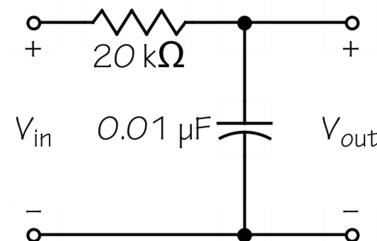
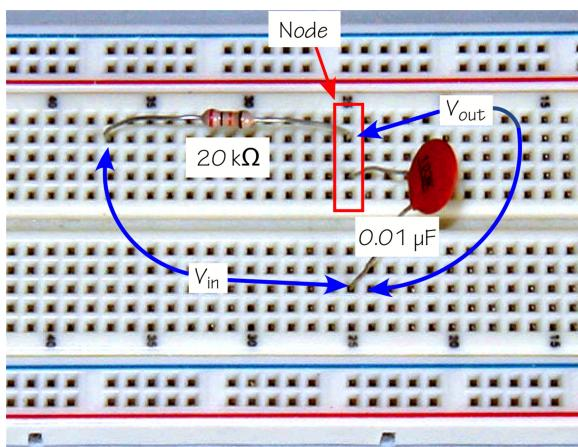

Figure 1: RC Circuit
Figure 2: Breadboard Layout
The circuit for this lab is the RC circuit of Figure 1, the same circuit you built by simulation in Lab 2s. As before, our interest is in the time-domain response of this circuit. We will be measuring just one parameter, the time constant of the RC circuit.
Figure 2 shows the construction of the actual circuit. The breadboard shown is a way of easily connecting circuit elements. There are two important facts to remember about these breadboards:
- The five holes in any vertical column are all connected together as shown by the red box of Figure 2. These five are not connected to any other holes in the board. Therefore, each group can represent one node of a circuit.
- Stake it into your breadboard between two separate nodes as shown in Figure 2.
- Stake the capacitor into the board with one end in the same node as one end of the resistor and the other end in a node below the gutter of the board as shown in Figure 2.
Your circuit should look like the circuit in Figure 2 and should have the same physical layout as the circuit diagram of Figure 1.